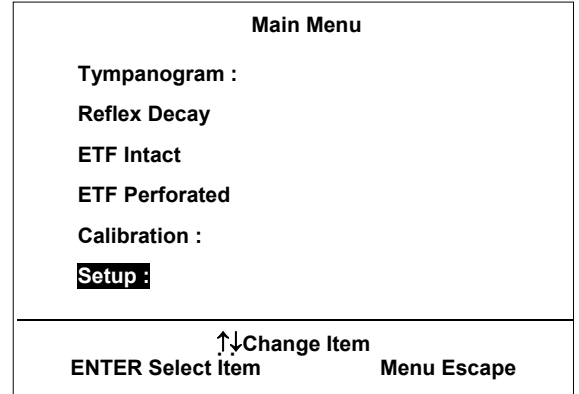

Figure 35
You can change the menu options with the cursor keys: Up ⑫, Left ⑨, Down ⑩ and Right ⑪. The menu option actually selected is marked inverse on the LCD display ⑤ (SETUP in the example Figure 35). You select the chosen menu option by pressing Enter ⑬.
Select the menu option “Tympanogram Setup Menu”: as illustrated in Figure 35 and the Tympanogram setup menu will appear on the LCD display ⑤.